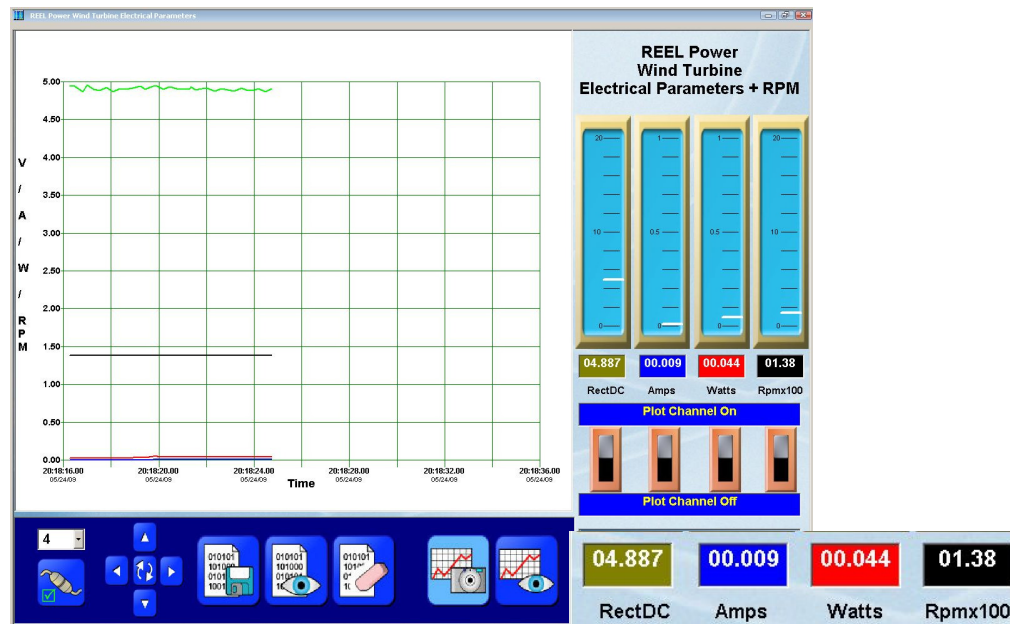

Figure 1– Filtered Rectified DC with No Load
5. Set the fan to the highest speed setting and verify the following plot in Figure 1 below. This is a plot with no load applied. A small amount of current is displayed, but this is due to sampling the sense resistor after sampling the primary voltage, both of which are varying at different times.